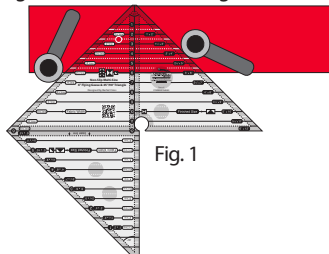

Fig. 1
4. Line up the top flat edge of the 90° triangle with the top of the fabric strip. The bottom edge of the fabric should match the 3-1/2" indicator on the ruler (Fig.1). Cut along both sides of the triangle.